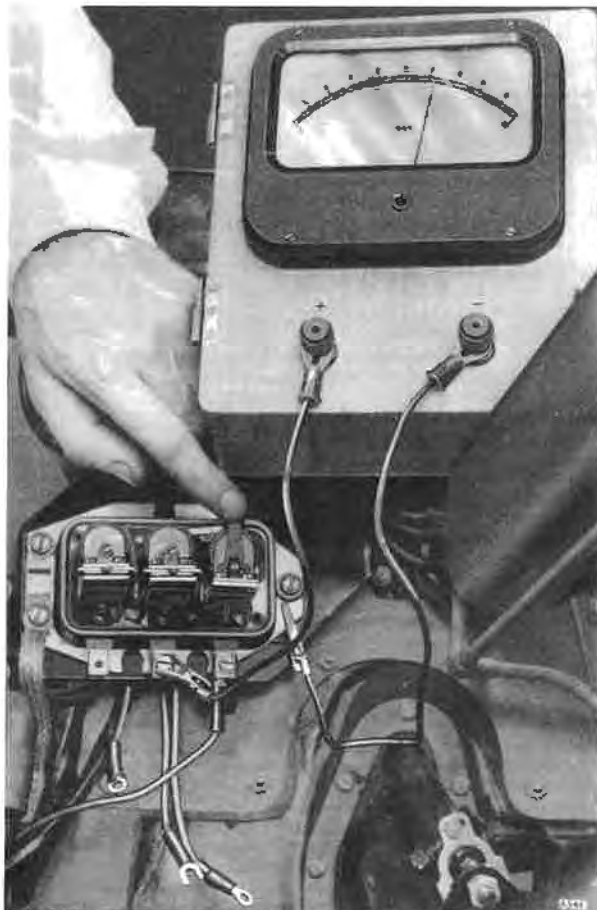

Fig. M13 Control box continuity test
- (ii) With the 'D' and 'F' wires to the generator disconnected, the engine switched off and the cut-out points held closed, test as shown in Figure M13.